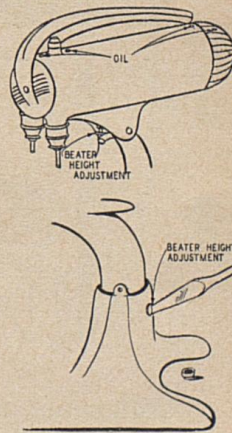

Fig. 38
Remedy: Most mixers are provided with an adjustment to raise and lower the beaters in the mixing bowl. Fig. 38. Find this adjustment on your mixer, loosen the lock nut and turn the screw until the beaters just touch the bowl. Tighten the lock nut.
1. **Lubrication:** Many mixers have sealed bearings which are packed with grease at the factory. Other mixers, as shown in Fig. 38, require lubrication. If the mixer is used frequently, it should be oiled every two weeks with 3 or 4 drops of light machine oil. If the mixer is not used often, it should be oiled once a month.